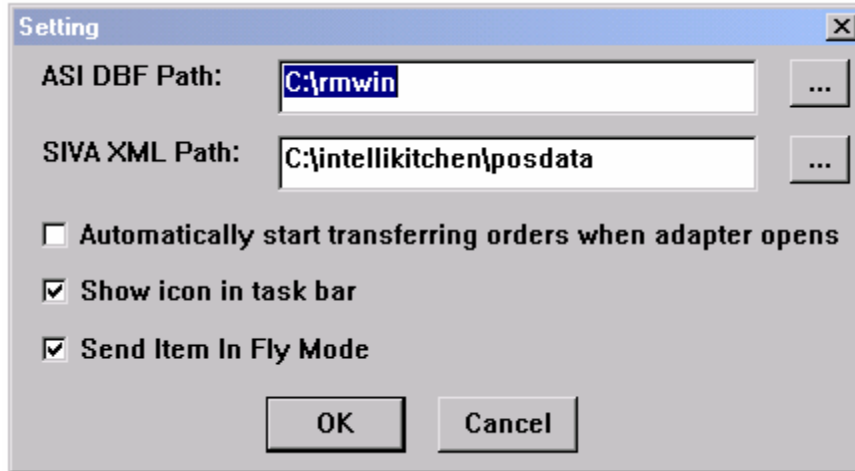

Figure 5
2. Assign ASI KITVIDEO.DBF and IntelliKitchen POSData path as shown in figure 5.